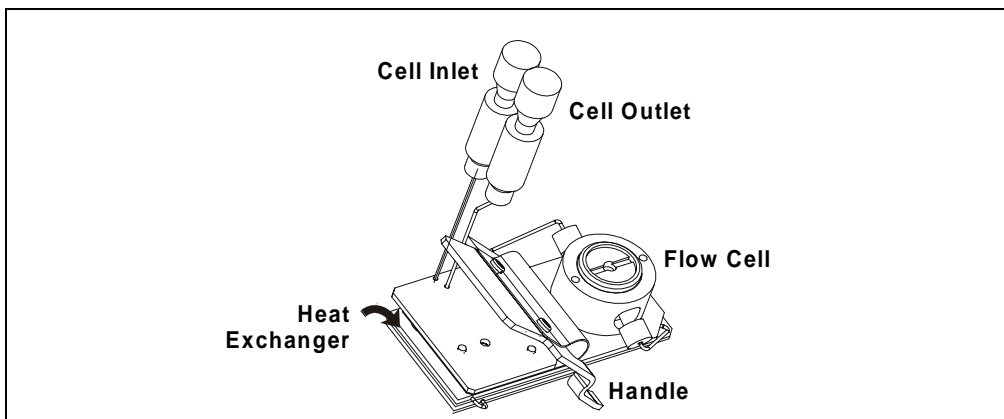

Figure B-3. AD25 Flow Cell Assembly
1. The flow cell inlet and outlet are plumbed with 0.25-mm (0.010-in) ID tubing. Connect the inlet and outlet lines to the union fittings on the heat exchanger tubing (see Figure B-3).
The heat exchanger is integral to the flow cell assembly (see Figure B-3). The flow cell inlet and outlet lines are normally connected to the union fittings on the heat exchanger tubing.